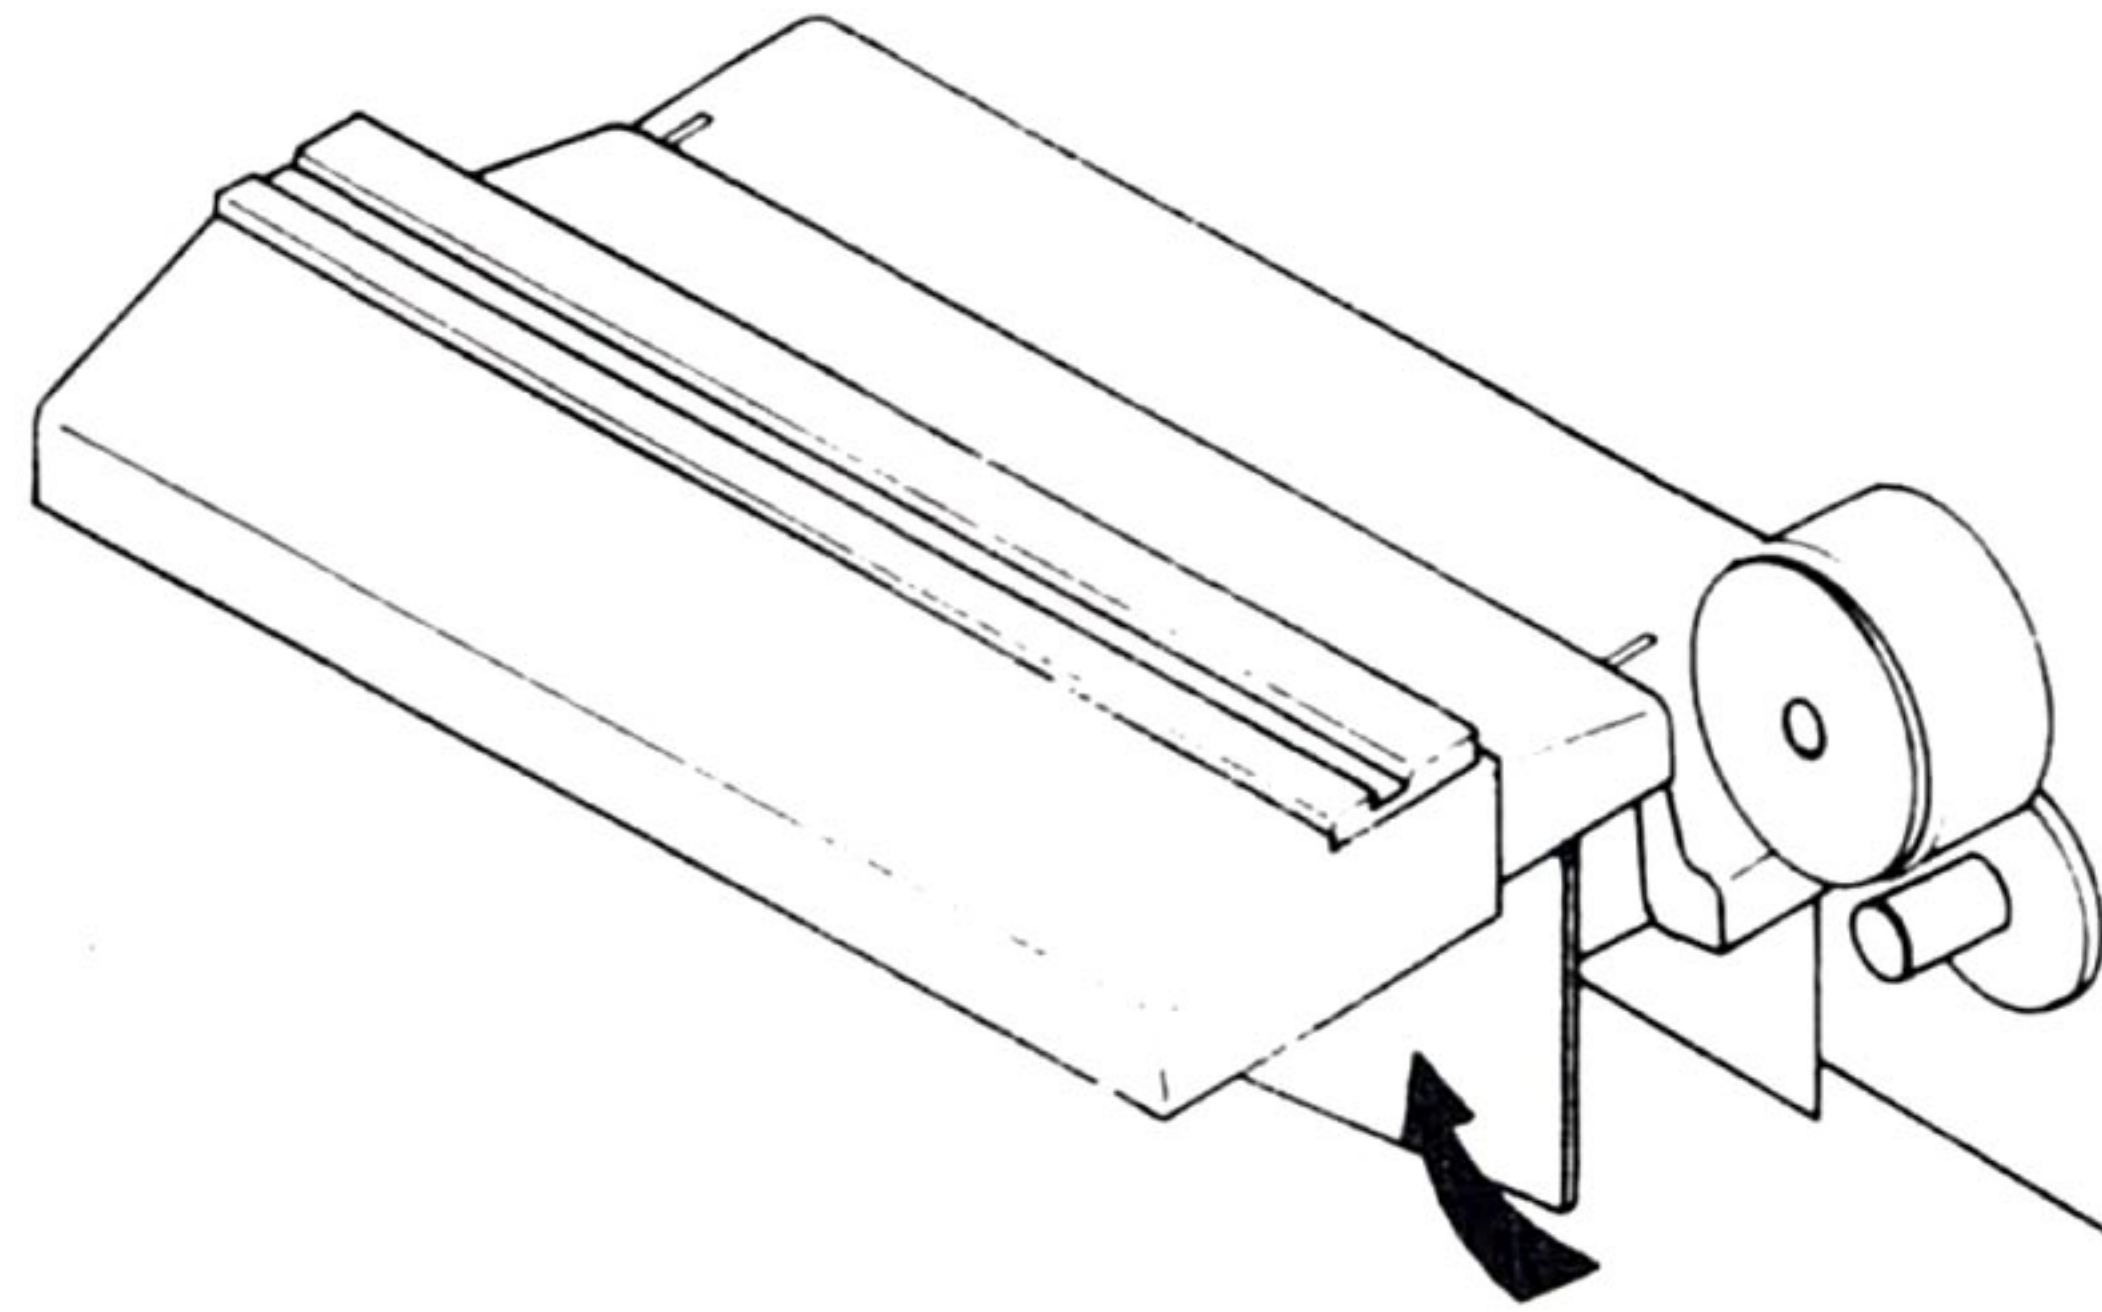

Fig. 1-1 Lifting Head Cover
2. Lift head cover as shown in Figure 1-1.